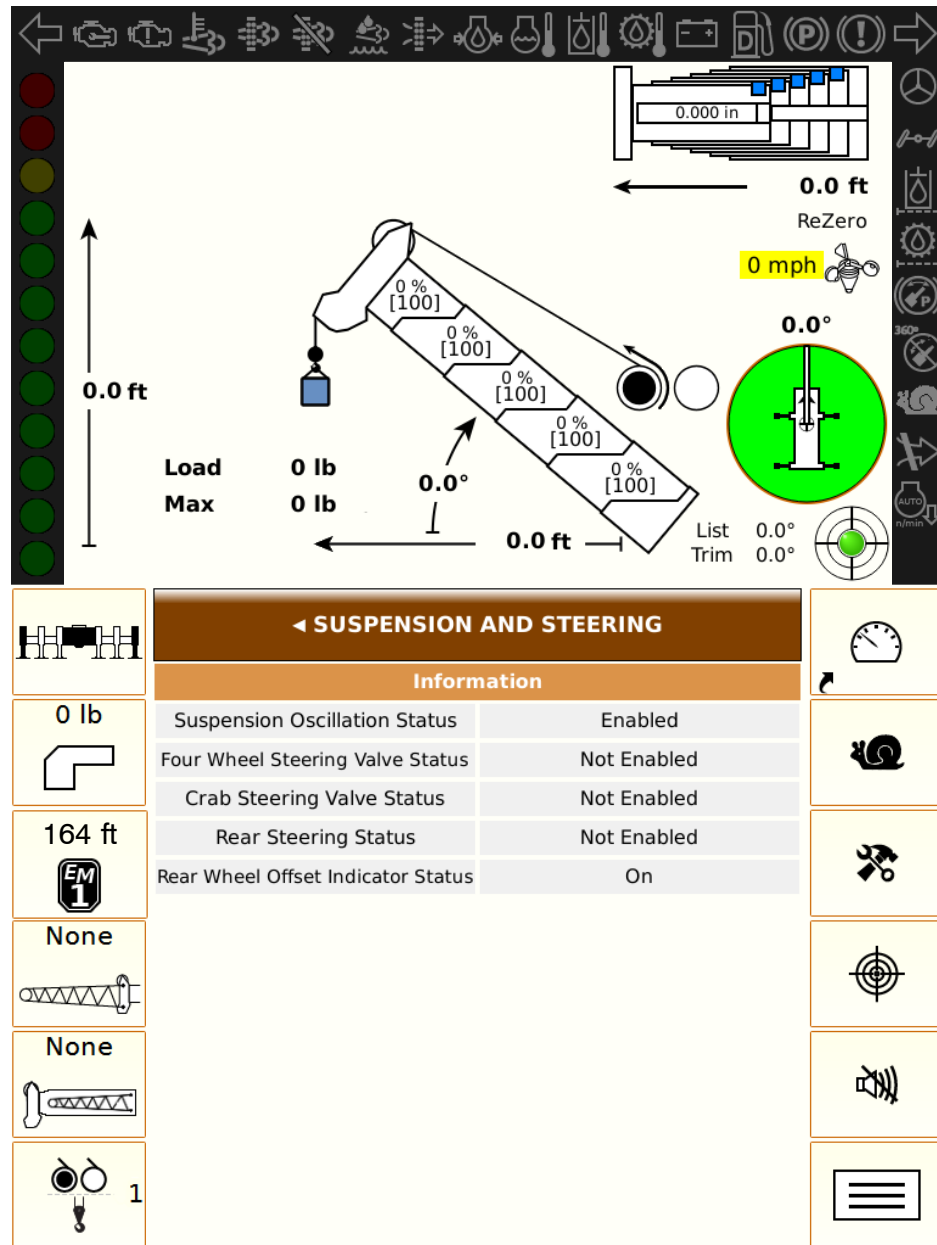

Figure 1-145
3. The Suspension And Steering Screen will appear. Refer to Figure 1-145.